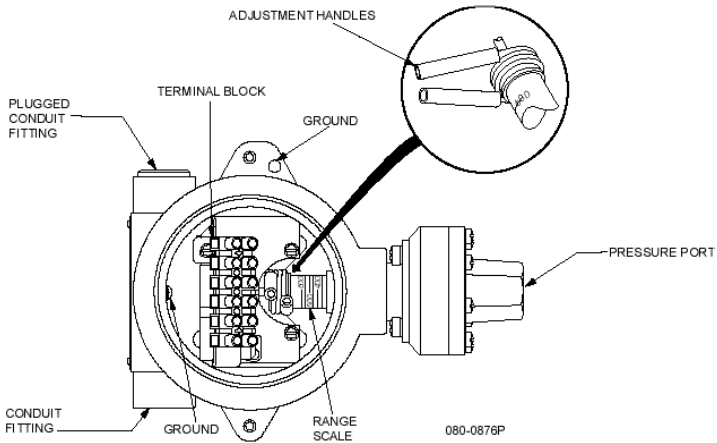
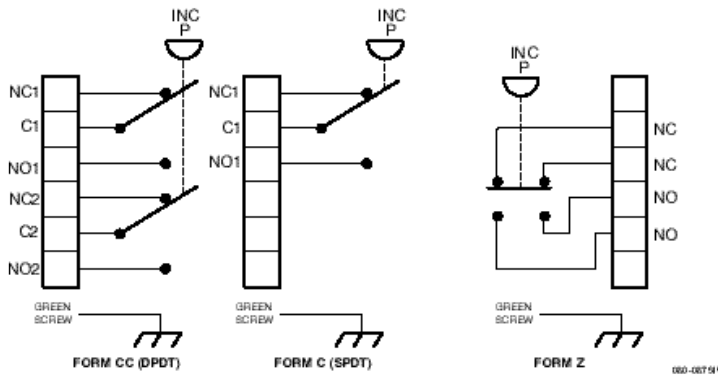

Figure 1. Model 100P Enclosure 7
Figure 2. Schematics Shown at Zero PSIG
With no power to the wires, remove the unit's cover, move the insulator flap to the side (exposing the terminal block), and connect the wires to the terminal block. (See Figure 1.) There are three ways of wiring model 100P Enclosure 7, depending on which Electrical Form the unit is; Figure 2 shows the electrical schematics for Forms CC, C, and Z.
4. To change the setpoint, the adjustment spring handles can be manipulated by hand or with a small-shafted screw driver or similar tool inserted into the end of the desired handle. The handle for decreasing the setpoints is next to the housing wall adjacent to the pressure port; the other handle, closer to the center of the housing, increases the setpoints. See Figure 1.